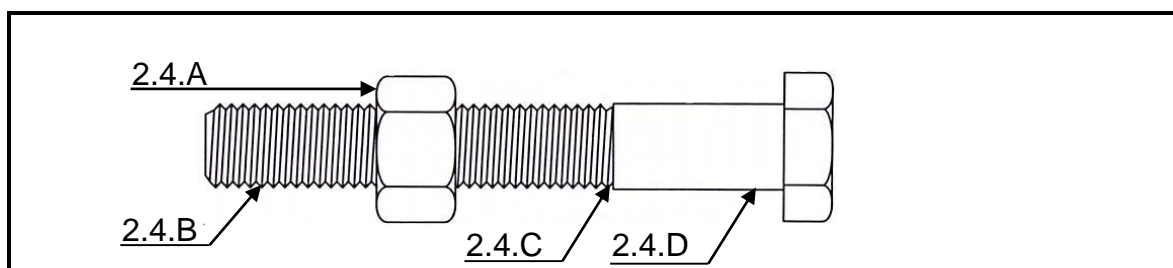

FIGURE 2.4
- 2.4 Name the parts 2.4.A to 2.4.D of the bolt in FIGURE 2.4. (4 x 1) (4)